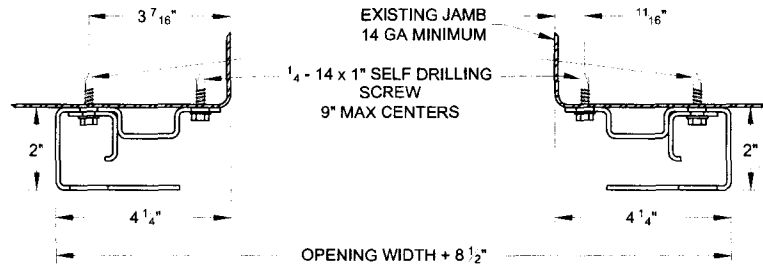

FIGURE 10: GUIDE MOUNTING - OPTION 3
- ⇒ OPTION 3: Steel Jambs less than $\frac{3}{16}$ " thickness. $\frac{1}{4}$ " - 14 x 1" self drilling/tapping screws at toe and inside of guide. See Figure 10.